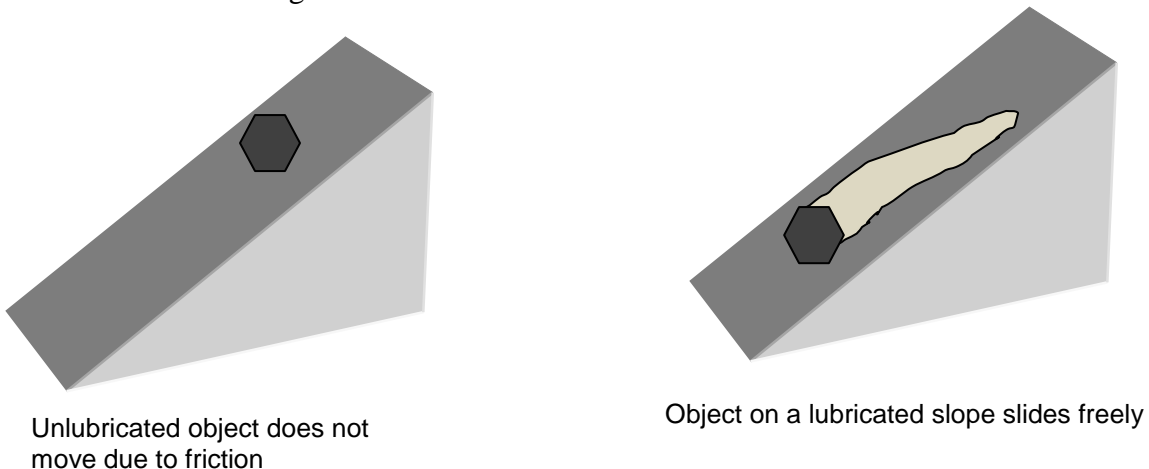

FIGURE 1: Effect Of Lubrication On Friction
- ◆ the use of a lubricant which flows between parts to create a fluid surface, thus creating less friction than that between solid surfaces (see Figure 1),
The most common method of reducing friction is lubrication. Friction is reduced to a much lower level when lubrication creates fluid friction where originally there was dry friction. When a layer of oil is placed between two solid surfaces, the oil adheres (sticks) to the solids. As the solid surfaces move over each other, it is actually the oil molecules adhering to the solids that slide across each other. See Figure 1.